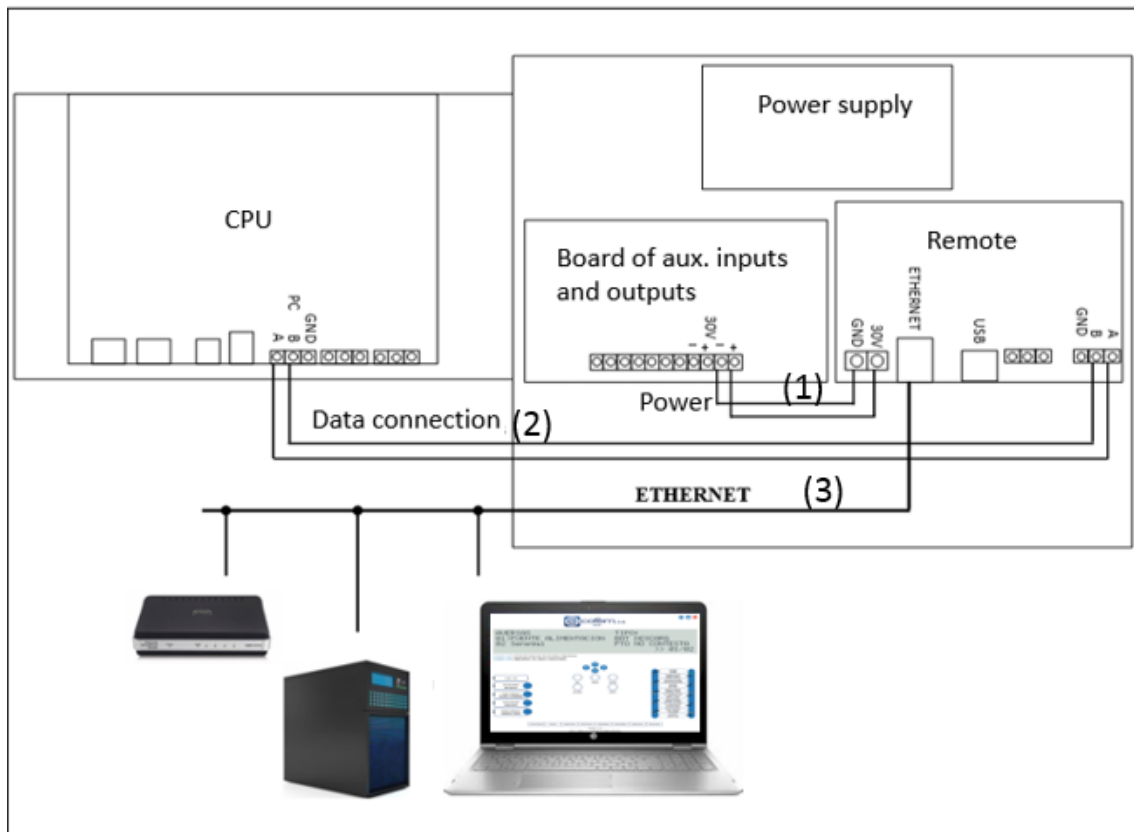

Figure 6. Connection diagram of the Remote card for Zafir and Clyn.
- 4- Finally connect the 30V output power to the Remote card **(1)**, the communication port "COM1" of the Remote card to the "PC" connector of the control panel **(2)** and the Ethernet cable in the RJ-45 connector **(3)** as shown in Figure 6.
- 5- Finally connect the 30V output power to the Remote card **(1)**, the communication port “COM1” of the Remote card to the “PC” connector of the control panel **(2)** and the Ethernet cable in the RJ-45 connector **(3)** as shown in Figure 6.